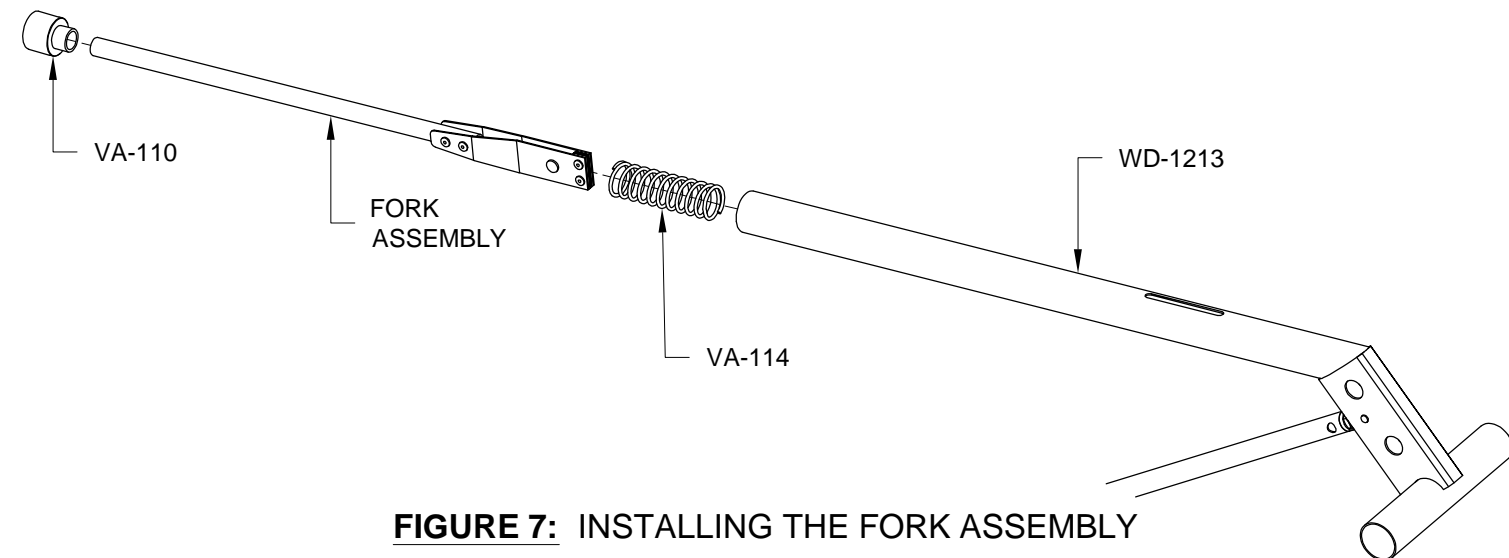

FIGURE 7: INSTALLING THE FORK ASSEMBLY
Step 14: Press the VA-110 Flap Knob onto the end of the Fork Assembly, then slide the VA-114 Compression Spring and the Fork Assembly into the WD-1213 Flap Handle as shown in Figure 7.